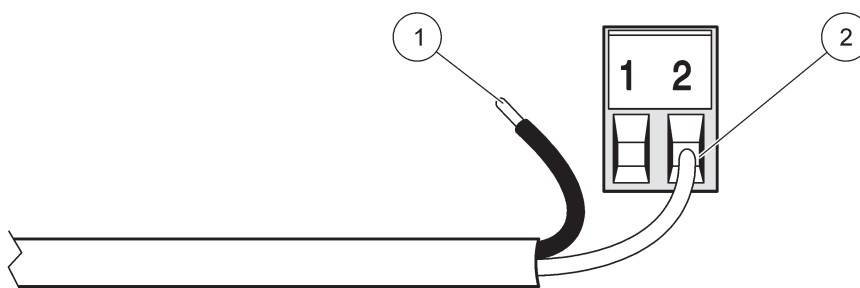
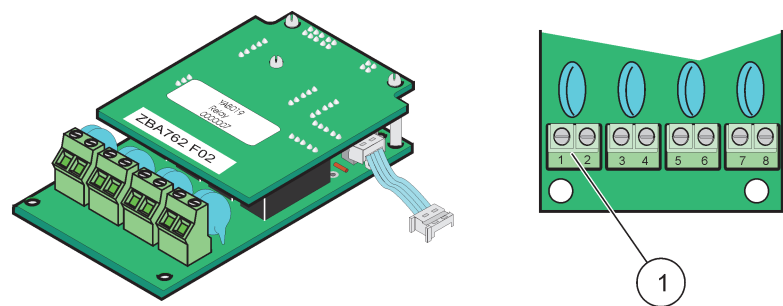
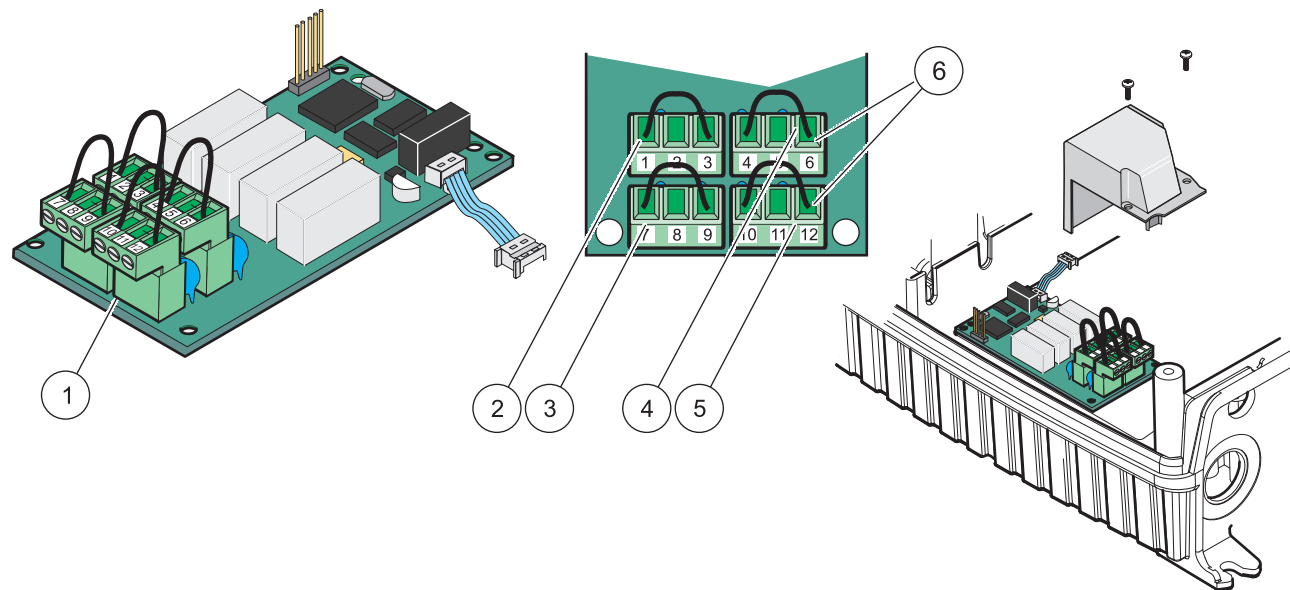

Figure 19 Proper wire preparation and insertion
Figure 20 Relay card (old version, discontinued in 2008)
Figure 21 Relay card (YAB076, change over)
5. Feed the cable through the base of the module and properly prepare and insert each wire (Figure 19) into the terminal according to Figure 20/Table 3 and Figure 21/Table 4. Tug gently after each insertion to make sure that the connection is secure.